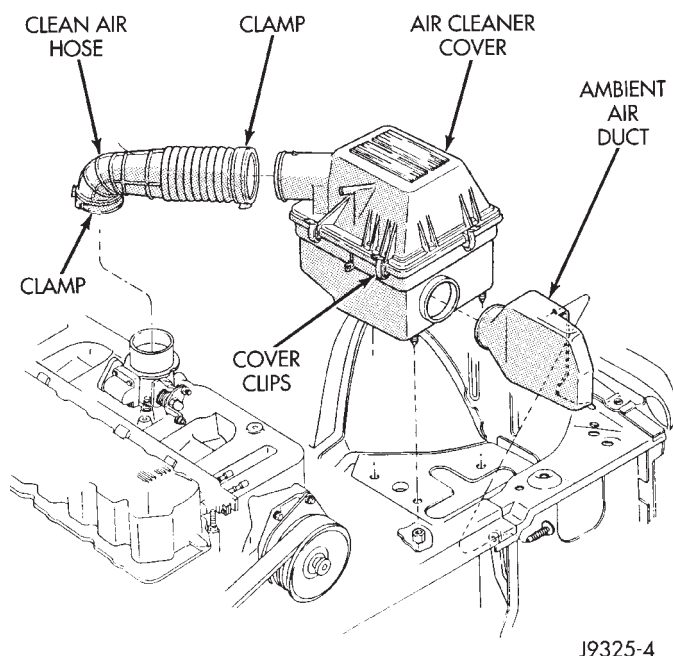
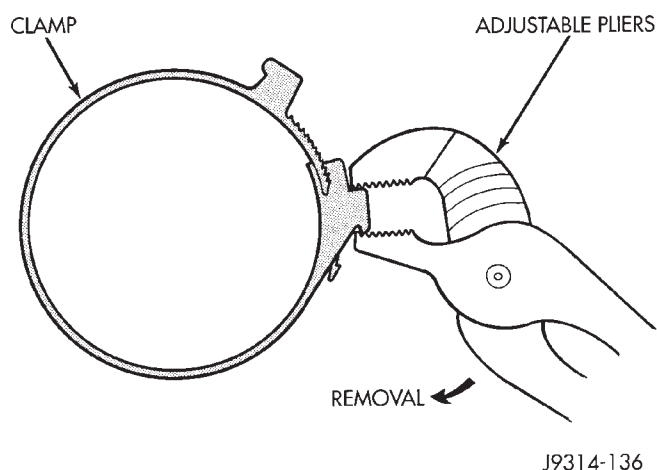

Fig. 1 Air Cleaner—4.0L Engine
Fig. 3 Clamp Removal
(1) Unlock clean air hose clamp (Figs. 1 or 2) at air cleaner cover. To unlock the clamp, attach adjustable pliers to clamp and rotate pliers as shown in figure 3.
(2) Remove crankcase breather/filter hose at air cleaner cover.
(3) From under vehicle, remove three housing nuts (Figs. 1 or 2).
(4) Release the air cleaner housing from the ambient air duct and remove housing from vehicle.
(1) Position air cleaner housing to body and ambient air duct (Figs. 1 or 2).
(2) Install three nuts and tighten to 10 N•m (93 in. lbs.) torque.